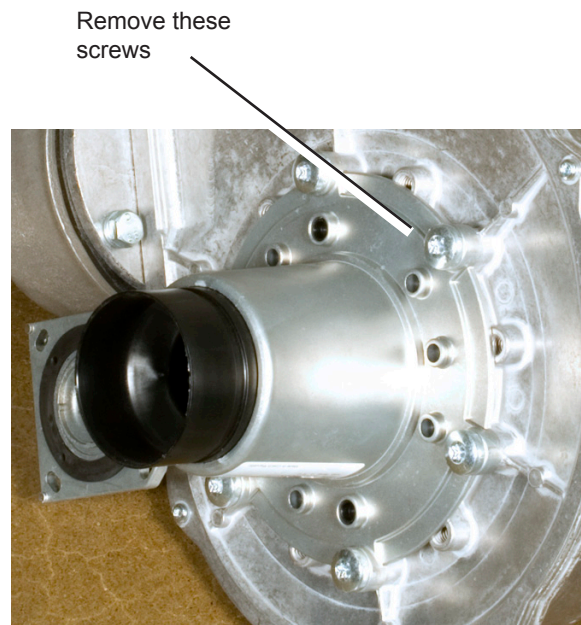

Fig. B23-8 - Separate the Venturi from the blower
10. Next, separate the Venturi from the blower. Remove the six #25 Torx® screws. See Fig. B23-8.